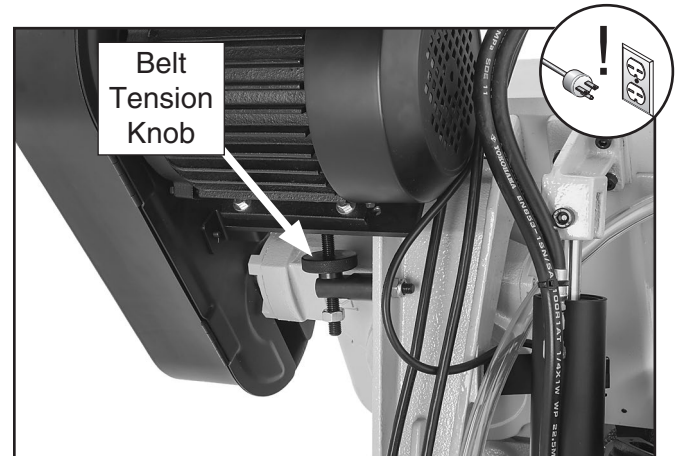

Figure 27. Location of belt tension knob.
3. Loosen knurled belt tension knob (see **Figure 27**). The motor will drop and V-belt will slacken.